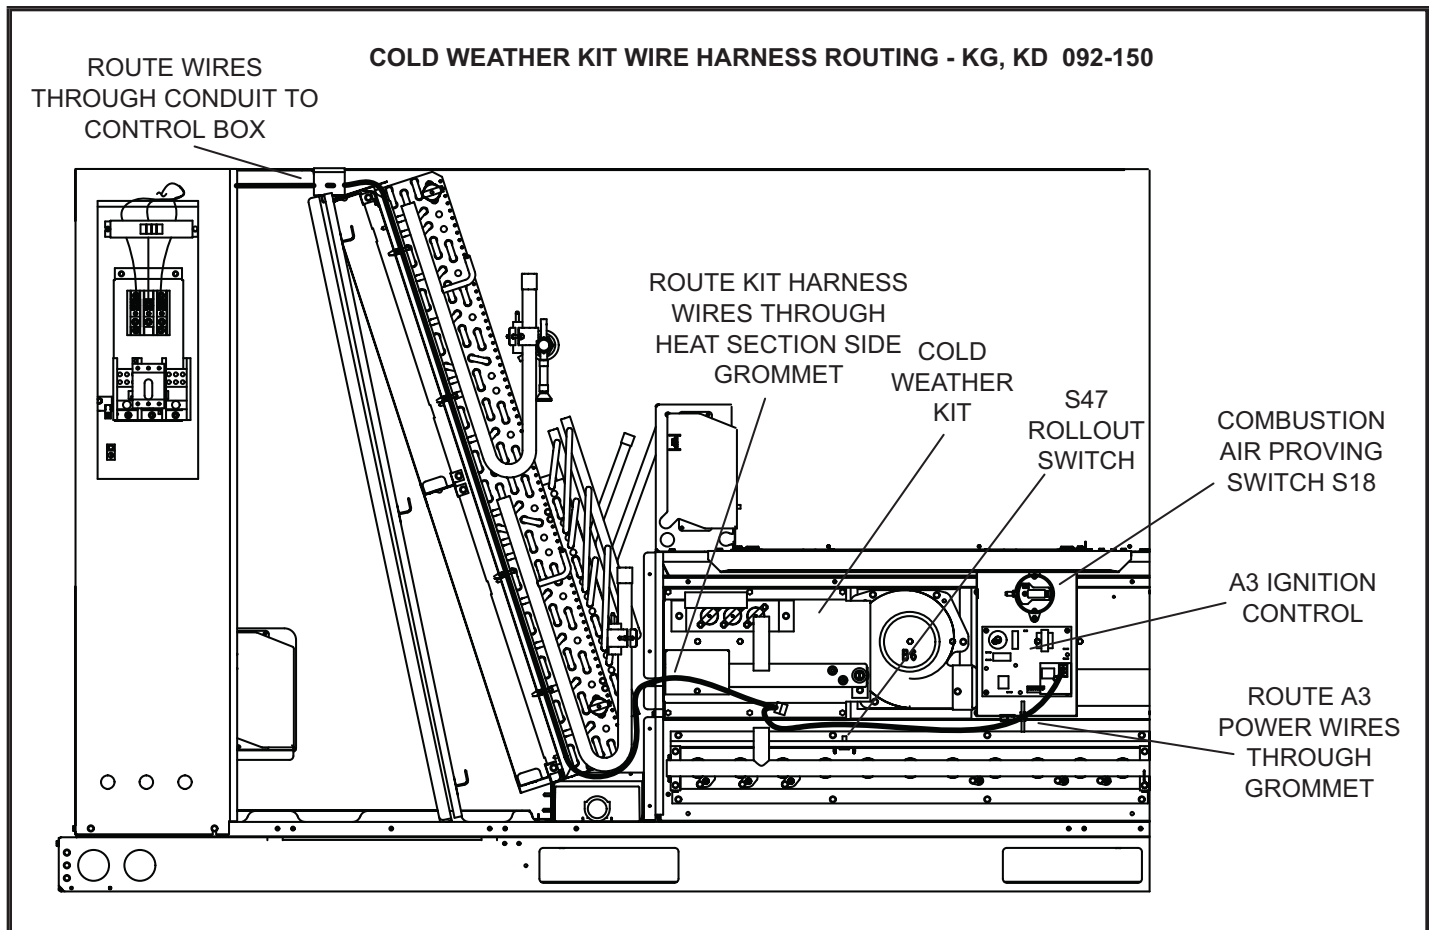

FIGURE 6
- 3 - Locate the kit harness labeled 604956-01 and identify six wires labeled K1-L1, K1-L2, K125-4, K125-7, K125-A, and K125-B. Route the six wires from the heat section through the side grommet to the control box. See FIGURE 6. Discard harness labeled 604954-01 provided in kit